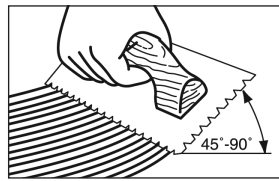

Figure 9
- Hold trowel at a minimum 45° angle (Figure 9) firmly against the subfloor to obtain a 40-60 ft.² (4-5.5 m²) per gallon spread rate (30-35 ft.² per gallon for Bruce Summit spread with the included Summit All-In-One trowel) The trowel will leave ridges of adhesive and very little adhesive between the ridges. This method will allow you to still see the chalk lines between the ridges and provide the recommended spread rate.